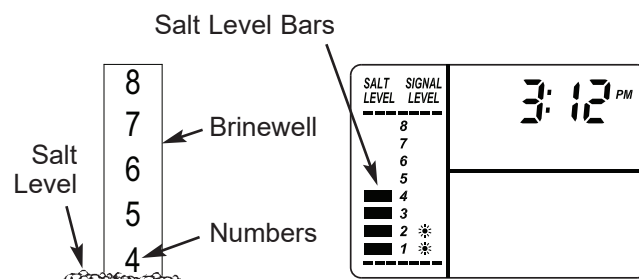

FIG. 24
2. The salt level scale, on the brinewell inside the tank, has numbers from 0 to 8 (see Fig. 24). Observe the highest number the leveled salt is at, or closest to.
3. Press the SET SALT LEVEL button as many times as necessary to make the salt level bars in the display (see Fig. 24) match the number on the brinewell. At level 2 or below, the Low Salt light will flash (See Page 13).